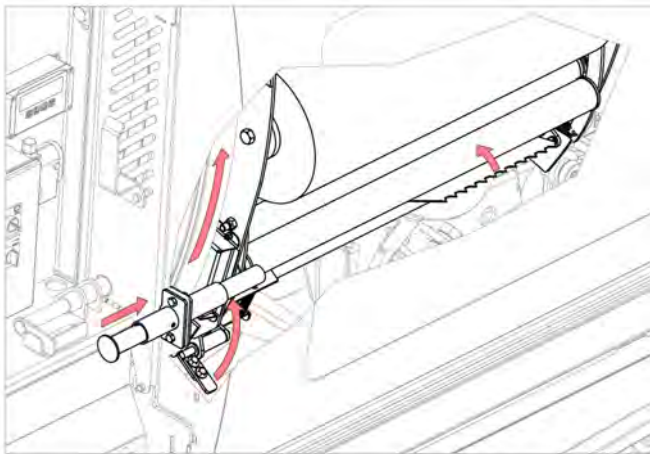

Fig.2
6. Cut plastic film by pressing and holding the film snap while rotating the hoop. See Fig.2